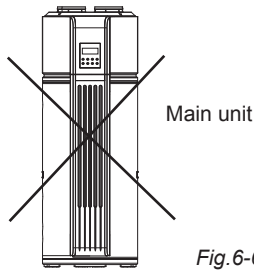

Fig.6-6
- Warning: In case of rain entering to internal components of the main unit, the component might be damaged hence causing physical danger. (Fig.6-6)